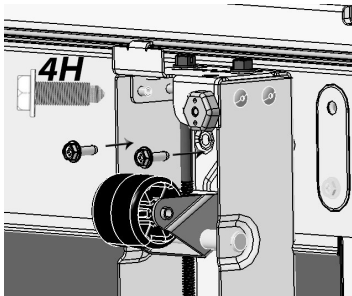
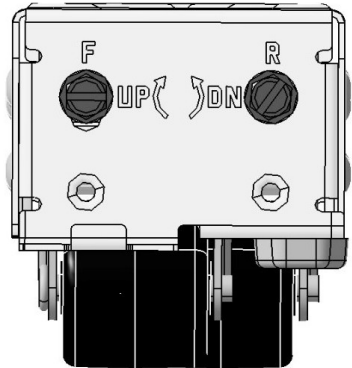

Fig. 5
Fig. 6
- Using the 4H bolts from step 1, fasten the front of the Leveler Assembly to the refrigerator/freezer using a 5/16" nut driver (Fig. 5). For steps 3b and 3c, if you need more space for the nut driver clearance, rotate the bolt labeled "F" clockwise (Fig. 6) using a flathead screwdriver or a 3/8" socket wrench.